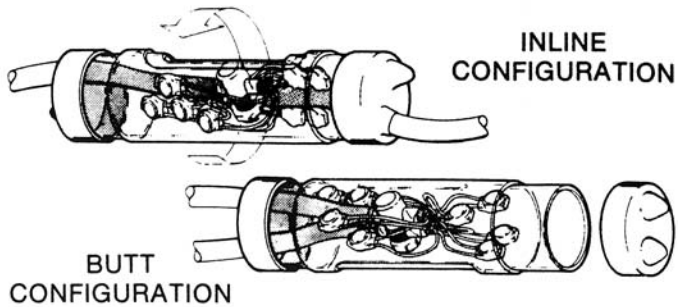

FIGURE 3
12. Close Barrel: By rotating sleeve for inline splice, with upper End Cap for butt splice. Note Figure 3.